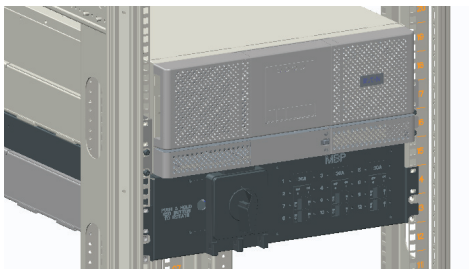

Figure 10. Secure the BPM to the Rack
4. Push the BPM into the rack and secure the mounting ears to the rack using the provided screws (see Figure 10).